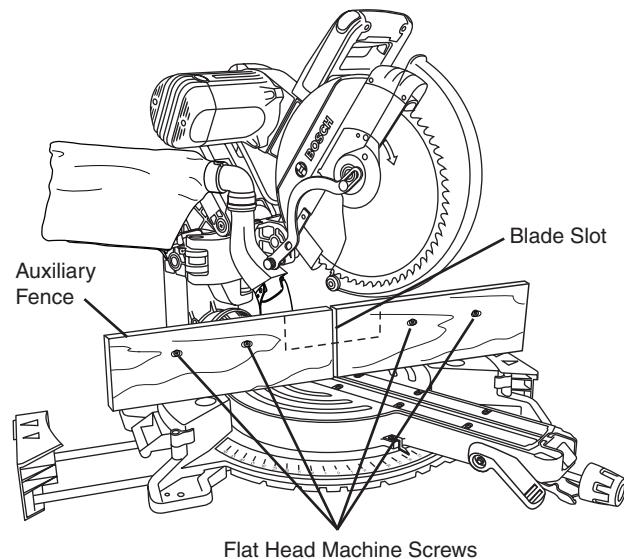
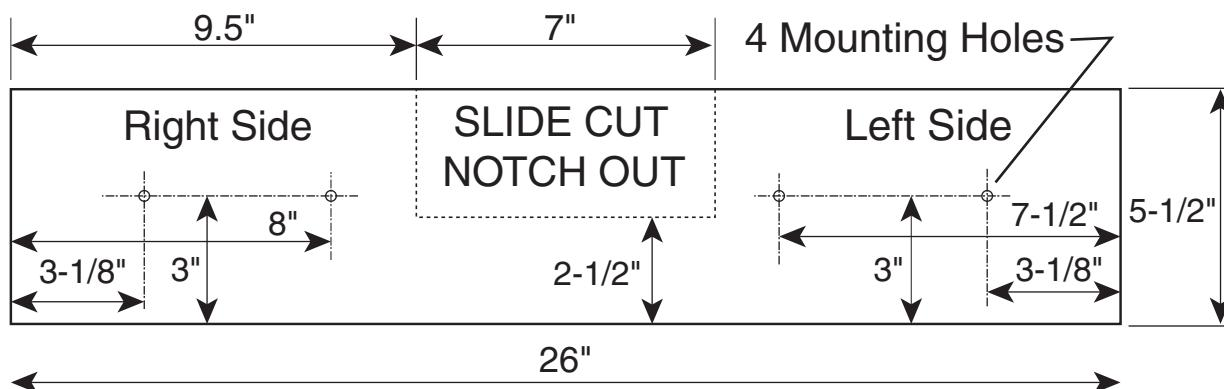

Figure 37. Auxiliary Fence
Figure 38. Tall Auxiliary Wood Fence - $\frac{3}{4}$ " Thick
1. Place a piece of wood against the miter saw fence (see Figure 37). Wood can have a maximum height of $5\frac{1}{2}$ "'. Check that auxiliary fence assembly does not interfere with head assembly. See dimension drawing – Figure 38.
4. Fasten from front of fence: Attach (each) auxiliary fence using two (2) $\frac{3}{16}$ " flat head machine screws. With $\frac{3}{4}$ " auxiliary fence, use $1\frac{1}{2}$ " long screws. Secure behind metal fence with washer and machine nuts.
7. When making slide cuts, the center must be notched out per pattern (see Figure 38).